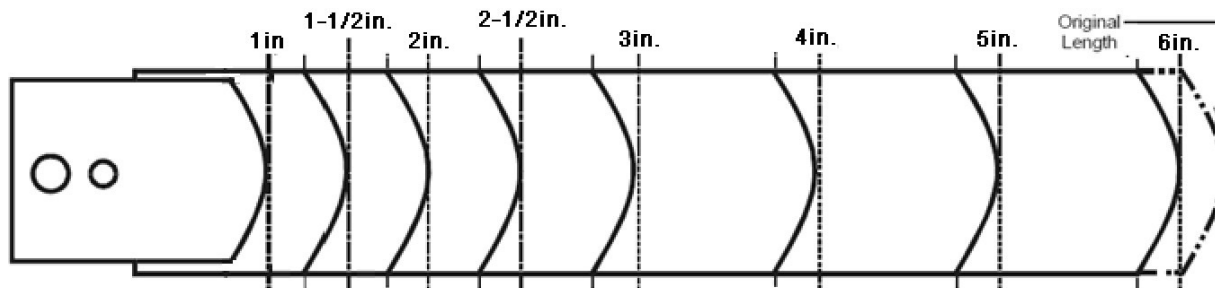

Figure 5 Trimming Template for the Extra Paddle
- FS80-C Flow Switch comes with 4-piece paddle (1 in., 2 in., 3 in., and 6 in. segments). Adjust the paddle to the size of the pipe in which it will be installed. If needed, use the template (see Figure 5), and trim the large paddle at the arc corresponding to pipe size and install.